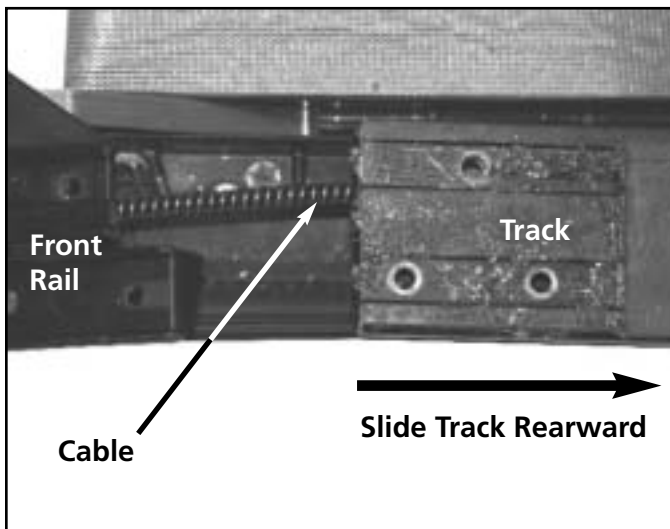

Figure S-5
5. Slide the track rearward away from the front rail disengaging it from the lifters, trolley and cable. See figures S-5 and S-6.